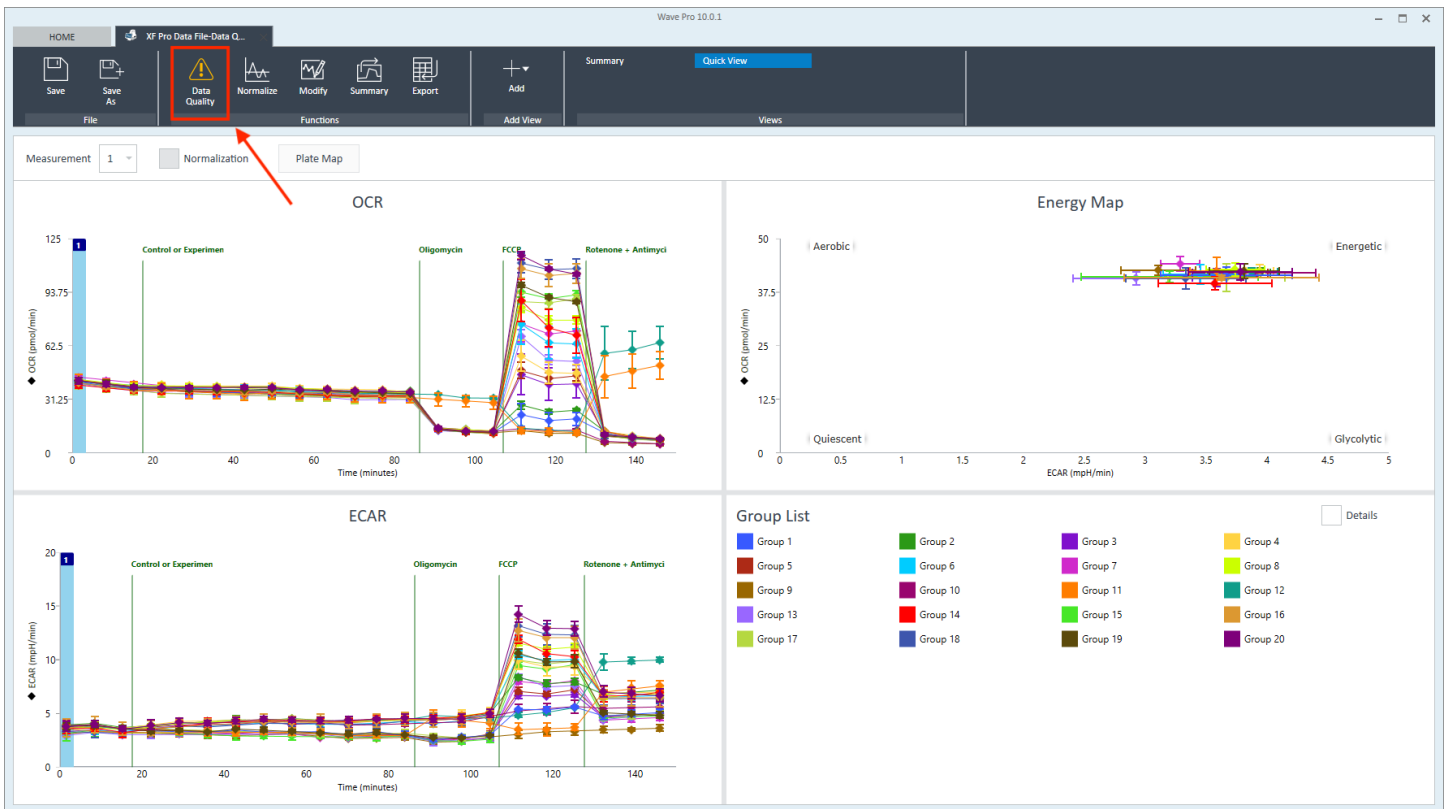
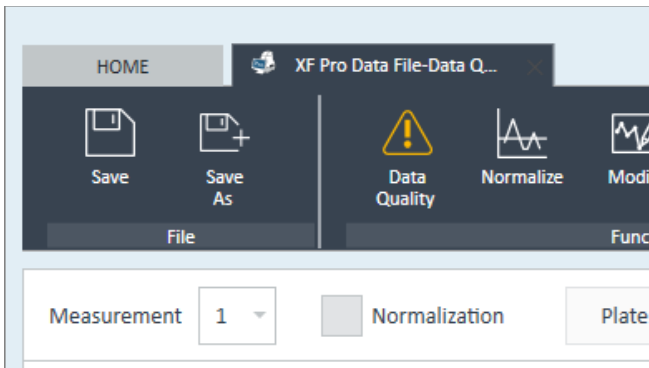
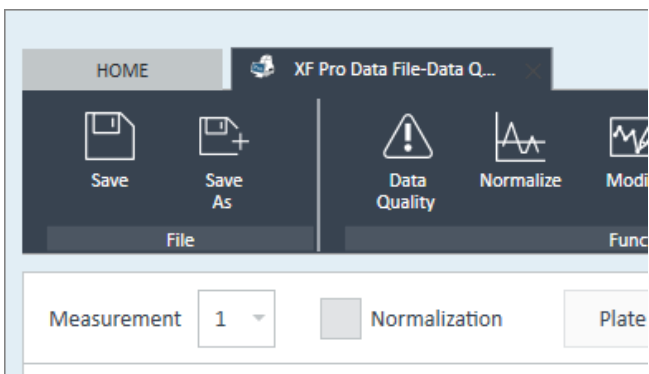

Figure 1. The Data Quality analysis view is enabled by clicking the indicated button.
Figure 2. A yellow Data Quality button means there are warnings or errors detected in the result file.
Figure 3. A normal or white Data Quality button means there are no warnings or errors detected in the result file.
2. When the file opens, you will find the Data Quality analysis view in the top-level functions ribbon (Figure 1). The button to open the Data Quality analysis view will appear yellow if there are warnings or errors detected in your result file (Figure 2). If the button has a gray/white color, like the other buttons in the function ribbon, this indicates that no warnings or errors were detected in your result file (Figure 3).